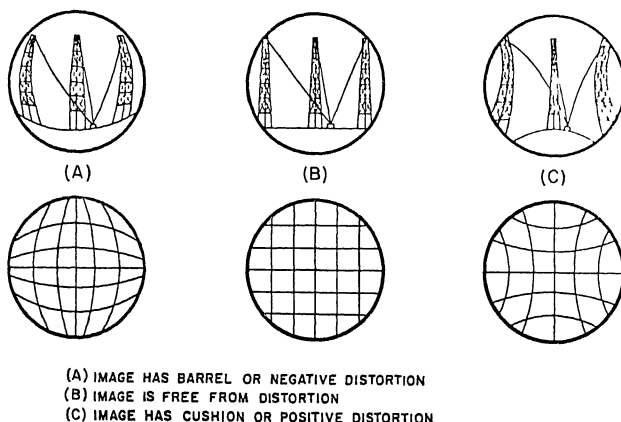

Figure 4-36.—Distorted images formed by a lens.
**BARREL DISTORTION** (fig. 4-36, view A). If it increases as you leave the axis, you will have **PIN-CUSHION DISTORTION** (fig. 4-36, view C).